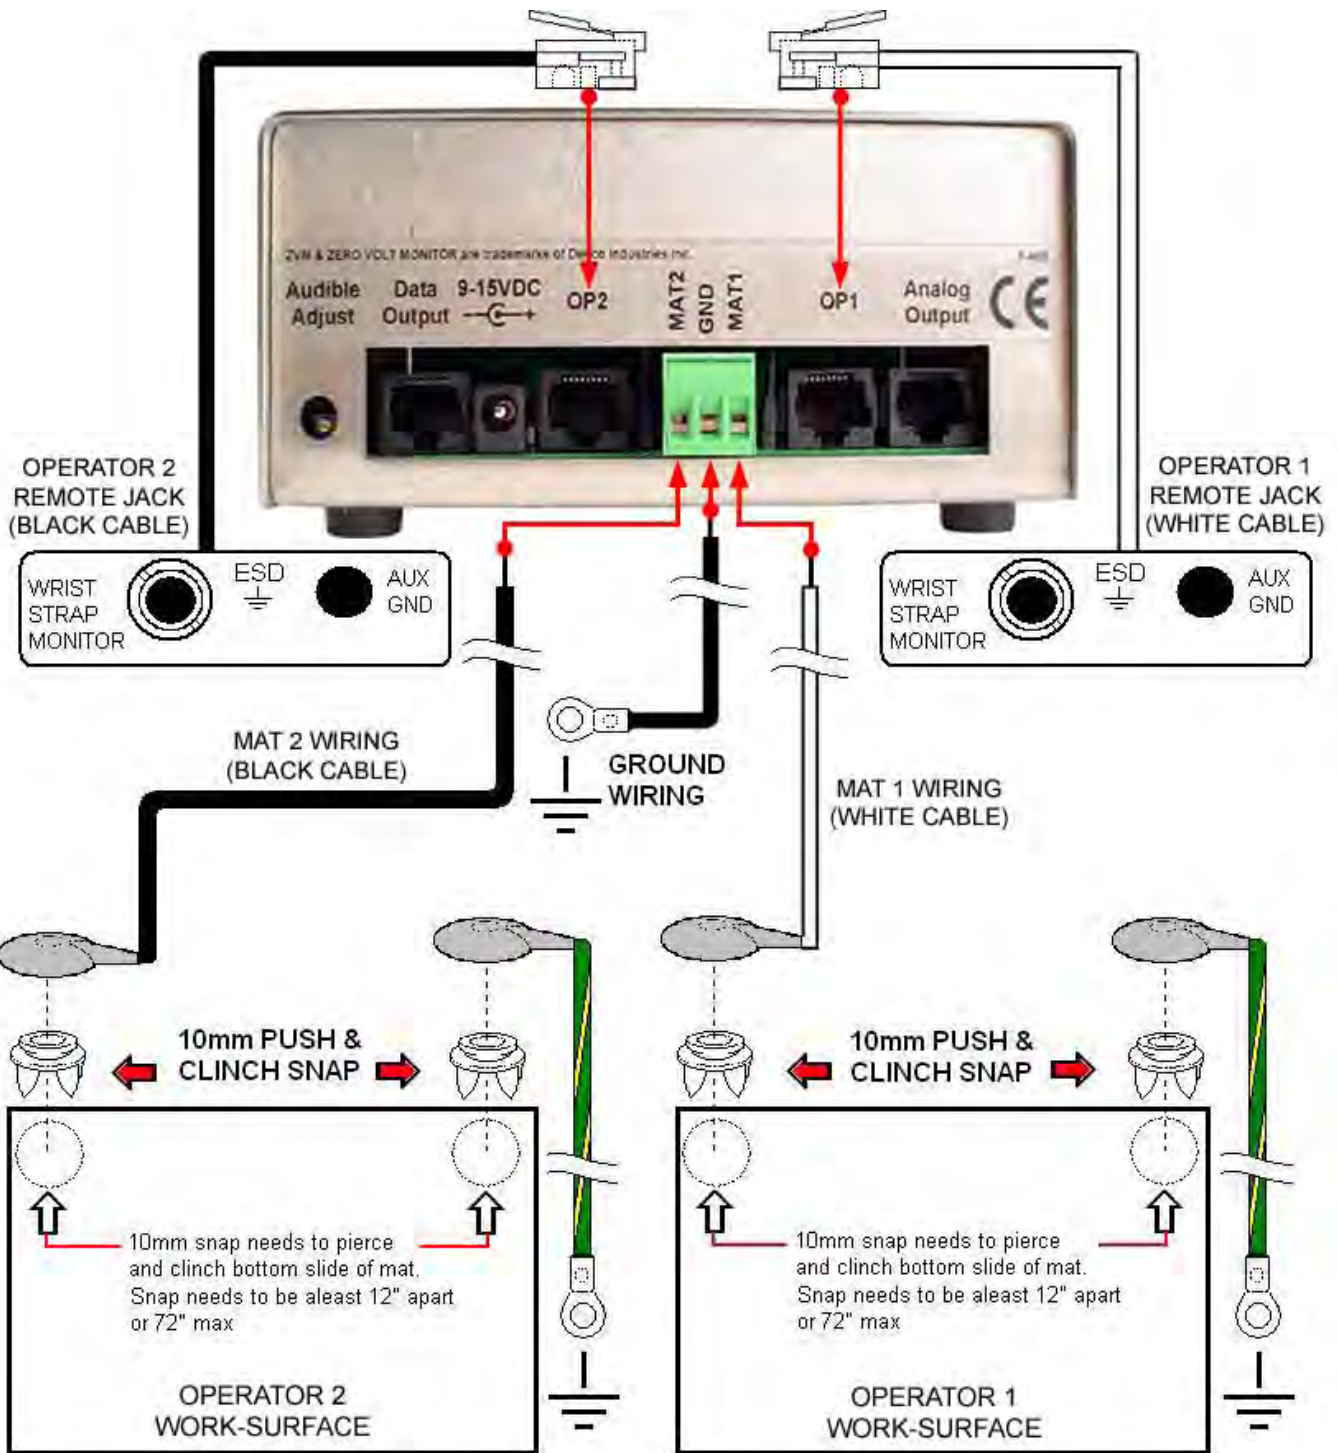

Figure 2. Installing the Zero Volt Monitor™
- VI. Attach the work surface mats to ground using the mat ground cords (See Figure 2). Attach the ring terminal end of the cord to the bench common ground point or other appropriate ground point. Attach the snaps at the opposite ends of the cords to the snaps on the work mat.